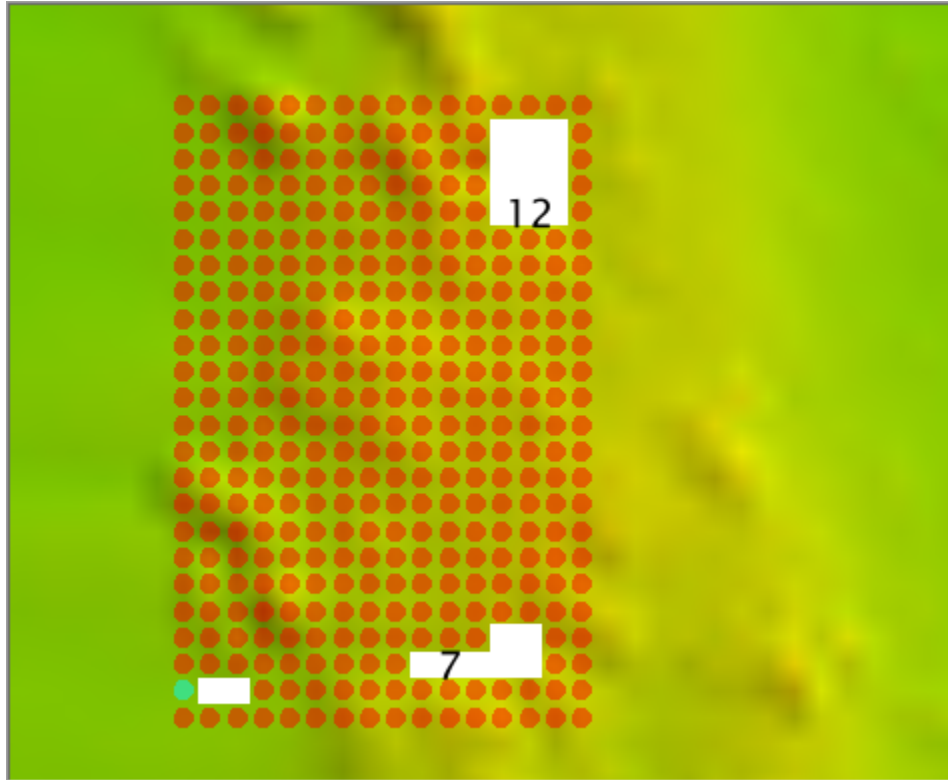

Fig. 2.20: Example for Object detection.
- In the example in (Fig. 2.20), Object Detection requirements identify the holes of 12 and 7 nodes, because each has 3 collinear, contiguous unpopulated nodes. The hole with 2 grids does not.